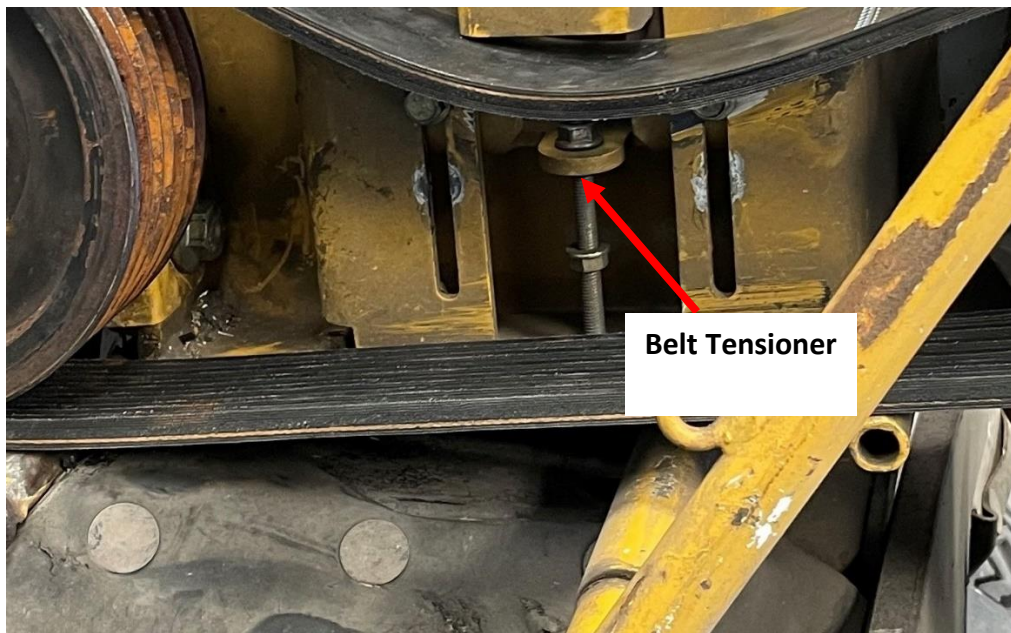

Figure 1.4
4. Loosen the belt tensioner and remove the belt. (Figure 1.4)